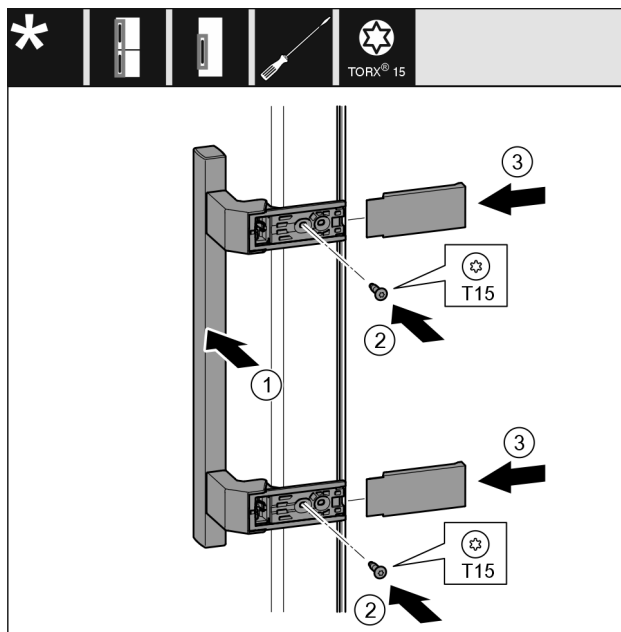

Fig. 34
- Place the handle Fig. 34 (1) on the opposite side.
- Tighten screws Fig. 34 (2) with screwdriver.
- Place the covers Fig. 34 (3) on the side and push them on.